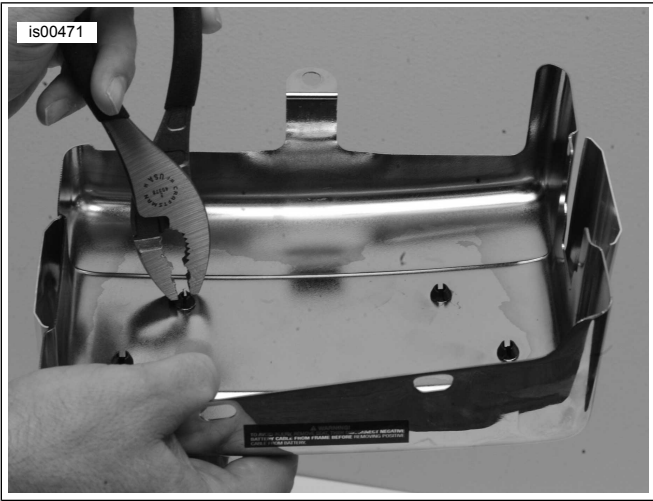

Figure 2. Push pinch tabs out of battery cover.
3. See Figure 2. Remove original equipment battery cover trim from battery cover by pushing the four pinch tabs out of the battery cover using a pliers or suitable tool.